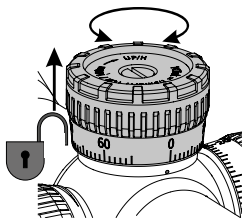

Fig. 2
The bullet-drop is compensated for by adjusting the line of sight of the riflescope according to the distance. **To prevent accidental adjustment, the BDC can only be turned when the knob is pulled up (Fig. 2).** The adjusting knob (1) of the BDC is equipped with a neutral ring upon delivery. The distance from increment to increment is one click, which corresponds to 1 cm at 100 m. Each tenth interval is marked with a number (BDC+: 0–60, BDC-LR: 0–90, BDC-ALR: 0–130).